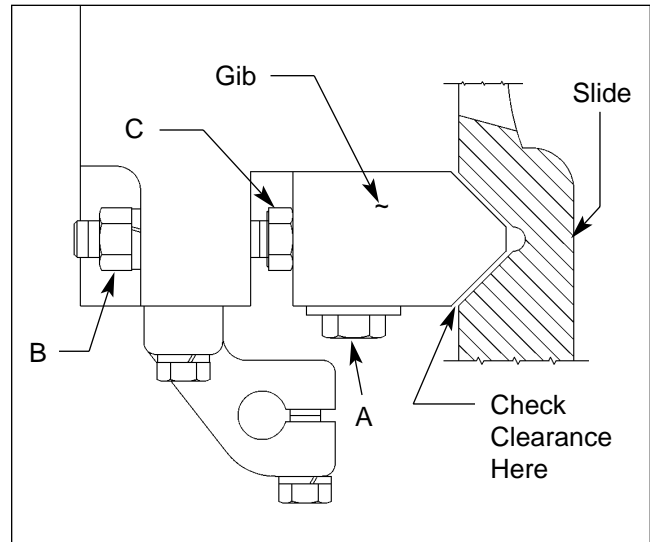

Figure 1F. Gib clearance and adjustment.
(Ref. Figure 1F)
8. Total gib clearance is set on one gib only. The gib adjusting screws are located on the frame as shown in Figure 1F. There is one set of adjusting screws for each gib.